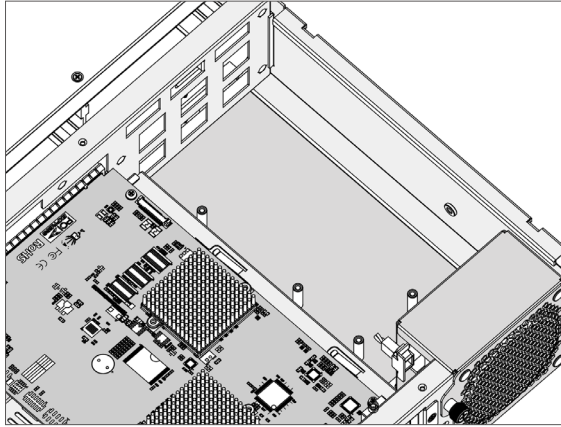

Figure B-6, Removing the Cover
1. Loosen the screws and remove the cover from the ARC-8050T3-12R enclosure, as shown in Figure B-6.